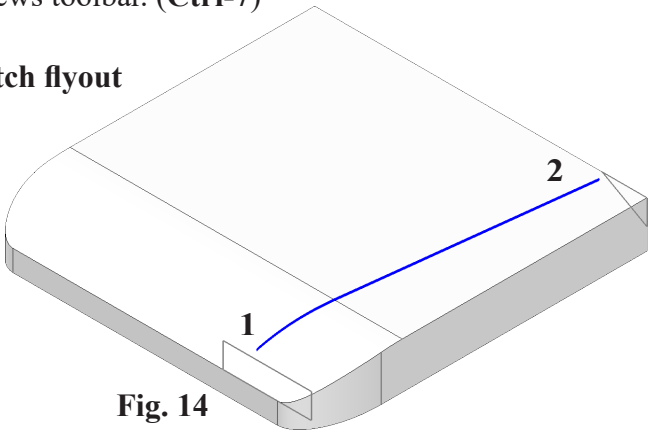

Fig. 14
Step 4. Sketch a **2 point Spline** on **top surfaces of body**, **Fig. 14**. Start near Sketch2 (rectangle) and end near Sketch3 (triangle). Press Escape to end spline.